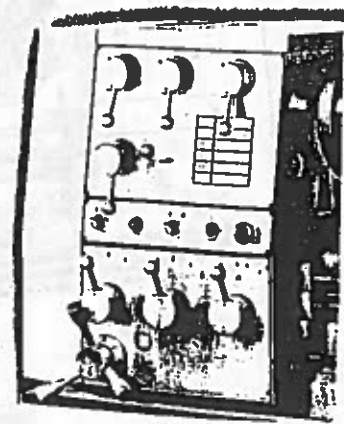

Fig 7
There is a push button (23) in the higher portion of norton feed gear box (see Fig. 7). Push it slightly. The spindle will run positively and stop automatically. This is for changing speed easier and adjusting the center for raw material when a 4-jaw chuck is used.